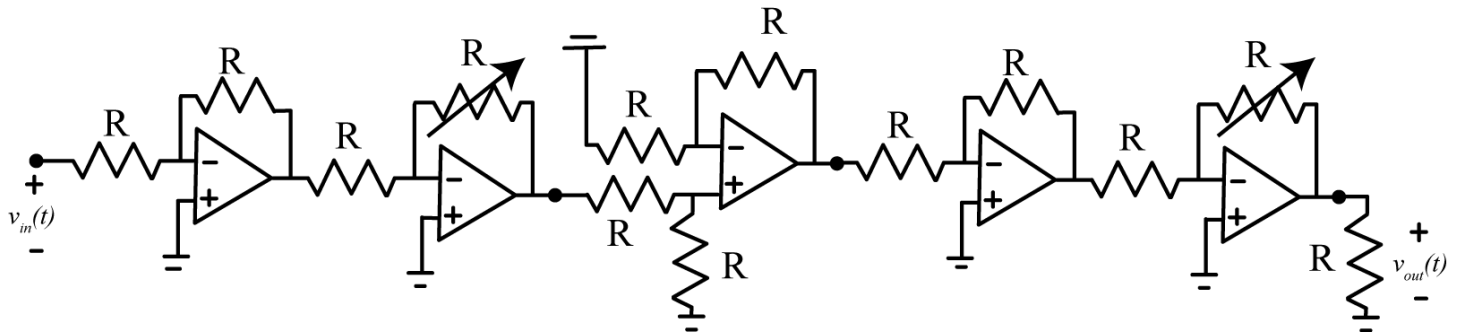

Figure 5. Prefilter, differential amplifier, and proportional controller.
5) Connect the first three stages of your system, as shown in Figure 5. The output should match the input. If it does not, modify the variable resistor on the controller. Be sure to remove the load resistor before you go on.